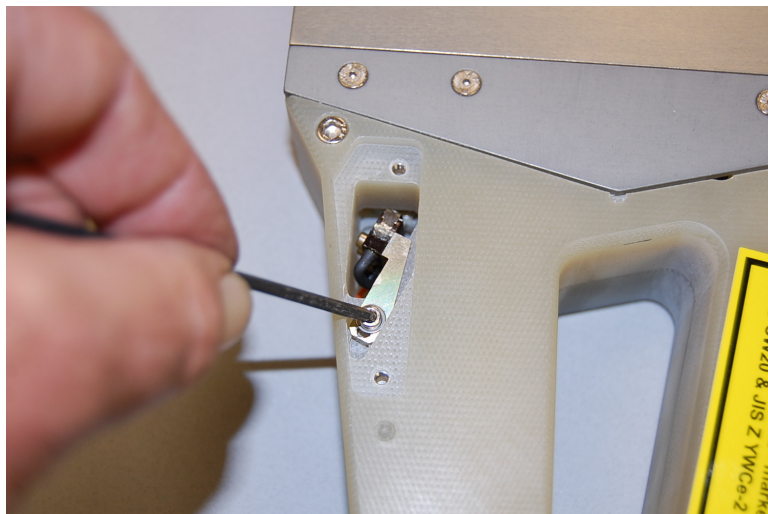

Fig. 17
- 9.2 Remove the access plate. See fig. 17.
- 9.3 Loosen the screw that holds the bracket attached to the return –to-home limit switch. See fig. 17.